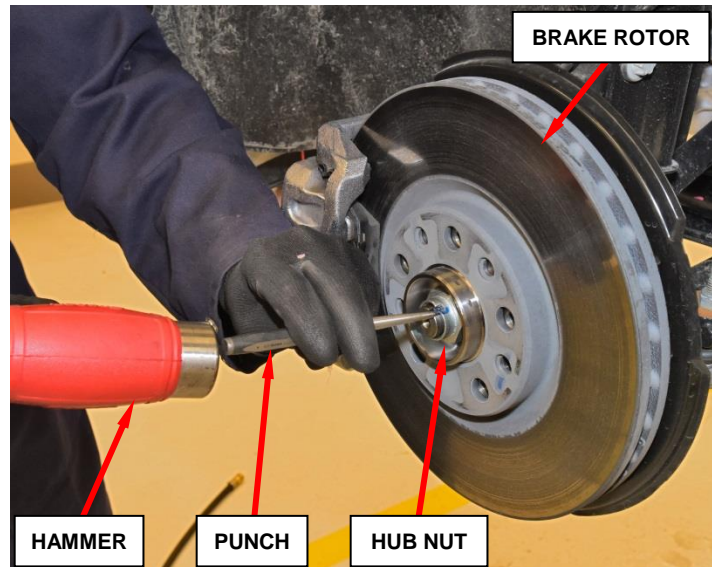

Figure 3 – Unstake Hub Nut
2. Using a suitable punch, lift the two staked areas in the hub nut to avoid damaging the half shaft (Figure 3).
3. While a helper applies the brakes to keep the hub from rotating, remove the hub nut from the half shaft and **DISCARD**. **The used hub nut is not reusable** (Figure 3).